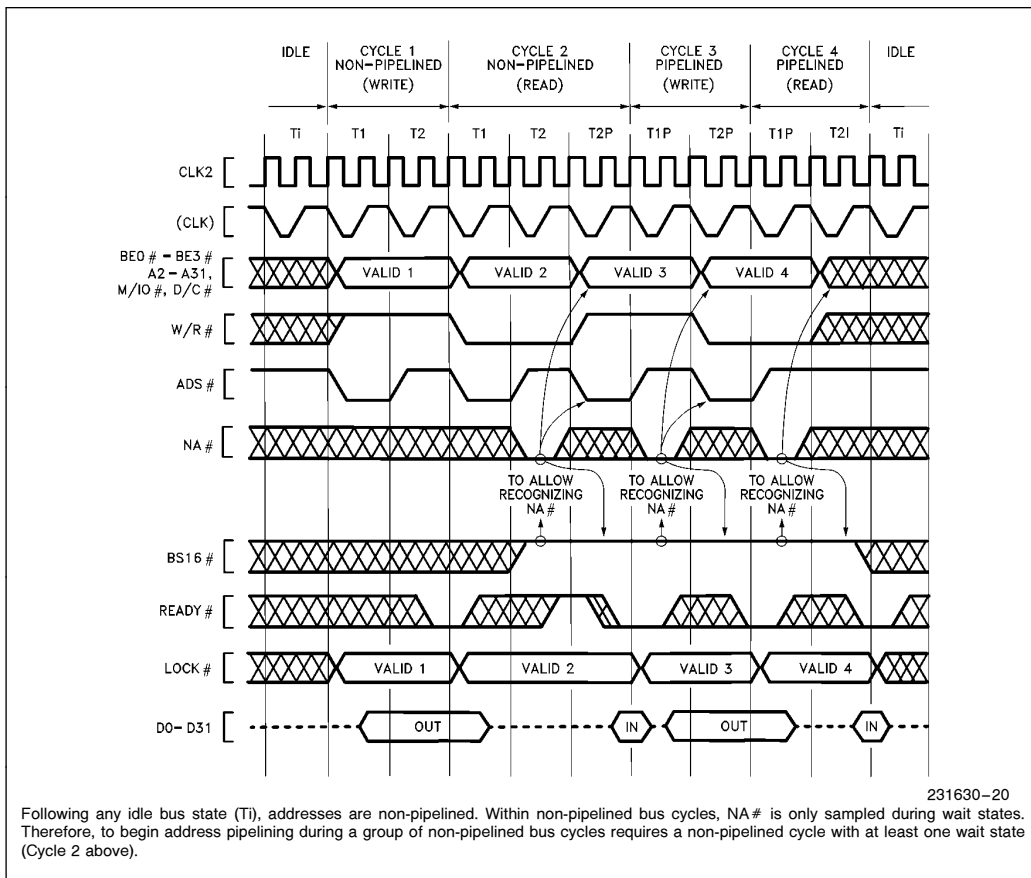
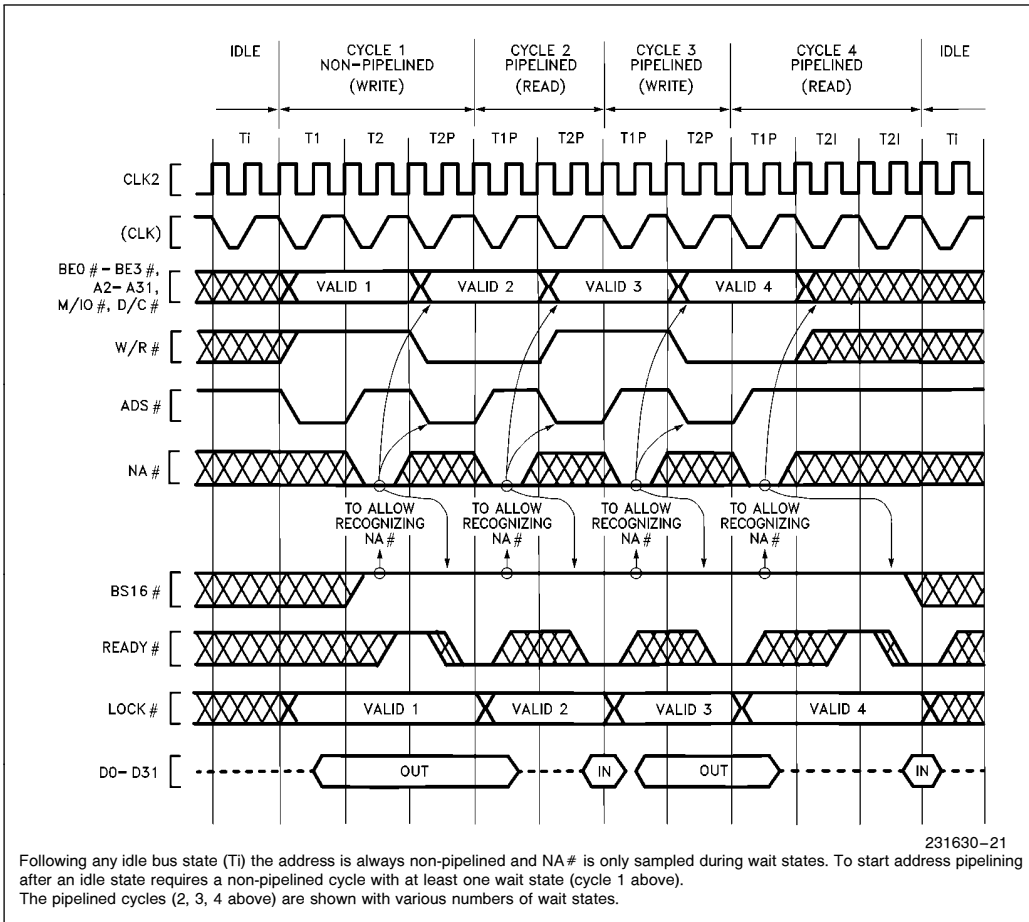
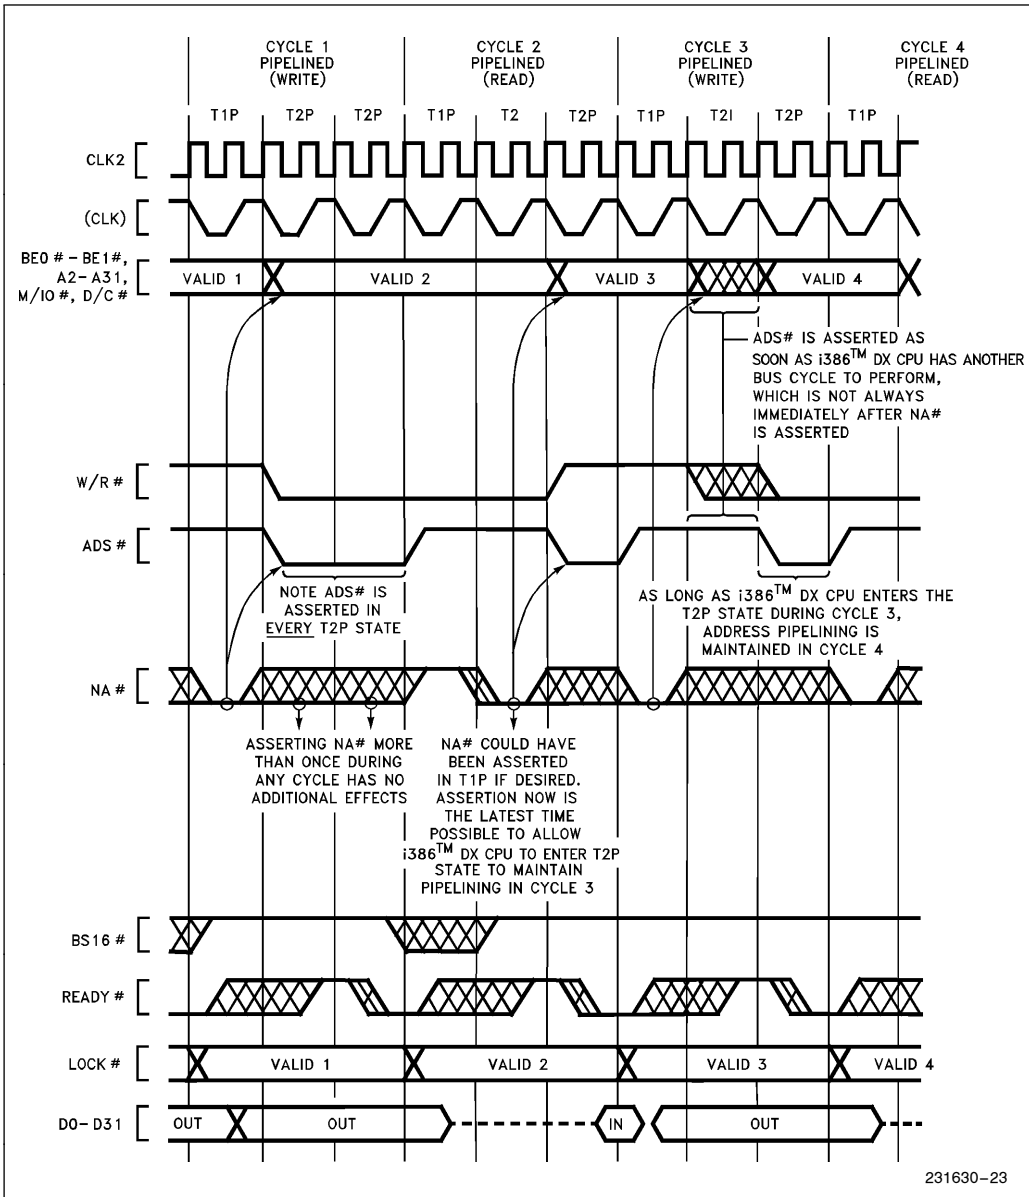

Figure 5-16. Transitioning to Pipelined Address During Burst of Bus Cycles
Figure 5-17. Fastest Transition to Pipelined Address Following Idle Bus State
Figure 5-19. Details of Address Pipelining During Cycles with Wait States
Once a bus cycle is in progress and the current address has been valid for at least one entire bus state, the NA# input is sampled at the end of every phase one until the bus cycle is acknowledged. During non-pipelined bus cycles, therefore, NA# is sampled at the end of phase one in every T2. An example is Cycle 2 in Figure 5-16, during which NA# is sampled at the end of phase one of every T2 (it was asserted once during the first T2 and has no further effect during that bus cycle).
- 1) For NA# to be sampled asserted, BS16# must be negated at that sampling window (see Figure 5-16 Cycles 2 through 4, and Figure 5-17 Cycles 1 through 4). If NA# and BS16# are both sampled asserted during the last T2 period of a bus cycle, BS16# asserted has priority. Therefore, if both are asserted, the current bus size is taken to be 16 bits and the next address is not pipelined.
- 2) The next address may appear as early as the bus state after NA# was sampled asserted (see Figures 5-16 or 5-17). In that case, state T2P is entered immediately. However, when there is not an internal bus request already pending, the next address will not be available immediately after NA# is asserted and T2I is entered instead of T2P (see Figure 5-19 Cycle 3). Provided the current bus cycle isn't yet acknowledged by READY# asserted, T2P will be entered as soon as the Intel386 DX does drive the next address. External hardware should therefore observe the ADS# output as confirmation the next address is actually being driven on the bus.
must assume the current bus size is 32 bits. Therefore if NA# is sampled asserted within a bus cycle, BS16# must be negated thereafter in that bus cycle (see Figures 5-16, 5-17, 5-19). Consequently, do not assert NA# during bus cycles which must have BS16# driven asserted. See **5.4.3.6 Dynamic Bus Sizing with Pipelined Address.**
- 4) Any address which is validated by a pulse on the Intel386 DX ADS# output will remain stable on the address pins for at least two processor clock periods. The Intel386 DX cannot produce a new address more frequently than every two processor clock periods (see Figures 5-16, 5-17, 5-19).
- 5) Only the address and bus cycle definition of the very next bus cycle is available. The pipelining capability cannot look further than one bus cycle ahead (see Figure 5-19 Cycle 1).
The transition to pipelined address is shown functionally by Figure 5-17 Cycle 1. Note that Cycle 1 is used to transition into pipelined address timing for the subsequent Cycles 2, 3 and 4, which are pipelined. The NA# input is asserted at the appropriate time to select address pipelining for Cycles 2, 3 and 4.
Once a bus cycle is in progress and the current address has become valid, the NA# input is sampled at the end of every phase one, beginning with the next bus state, until the bus cycle is acknowledged. During Figure 5-17 Cycle 1 therefore, sampling begins in T2. Once NA# is sampled asserted during the current cycle, the Intel386 DX is free to drive a new address and bus cycle definition on the bus as early as the next bus state. In Figure 5-16 Cycle 1 for example, the next address is driven during state T2P. Thus Cycle 1 makes the transition to pipelined address timing, since it begins with T1 but ends with T2P. Because the address for Cycle 2 is available before Cycle 2 begins, Cycle 2 is called a pipelined bus cycle, and it begins with T1P. Cycle 2 begins as soon as READY# asserted terminates Cycle 1.
Example transition bus cycles are Figure 5-17 Cycle 1 and Figure 5-16 Cycle 2. Figure 5-17 shows transition during the very first cycle after an idle bus state, which is the fastest possible transition into address pipelining. Figure 5-16 Cycle 2 shows a transition cycle occurring during a burst of bus cycles. In any case, a transition cycle is the same whenever it occurs: it consists at least of T1, T2 (you assert NA# at that time), and T2P (provided the Intel386 DX has an internal bus request already pending, which it almost always has). T2P states are repeated if wait states are added to the cycle.
Note three states (T1, T2 and T2P) are only required in a bus cycle performing a **transition** from non-pipelined address into pipelined address timing, for example Figure 5-17 Cycle 1. Figure 5-17 Cycles 2, 3 and 4 show that address pipelining can be maintained with two-state bus cycles consisting only of T1P and T2P.
Once a pipelined bus cycle is in progress, pipelined timing is maintained for the next cycle by asserting NA# and detecting that the Intel386 DX enters T2P during the current bus cycle. The current bus cycle must end in state T2P for pipelining to be maintained in the next cycle. T2P is identified by the assertion of ADS#. Figures 5-16 and 5-17 however, each show pipelining ending after Cycle 4 because Cycle 4 ends in T2I. This indicates the Intel386 DX didn't have an internal bus request prior to the acknowledgement of Cycle 4. If a cycle ends with a T2 or T2I, the next cycle will not be pipelined.